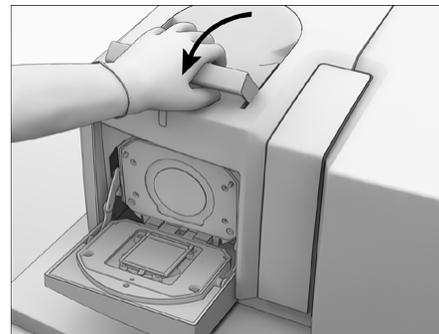

Figure 16: Opening the camera door
2. Open the camera door by pulling gently on the handle as shown in Figure 16.